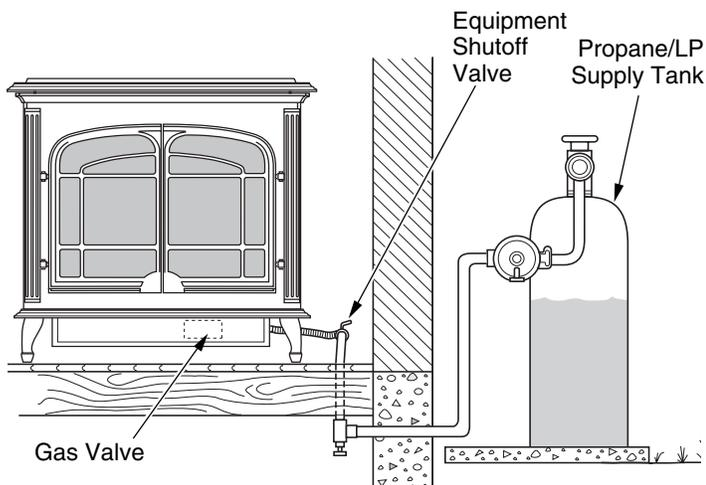
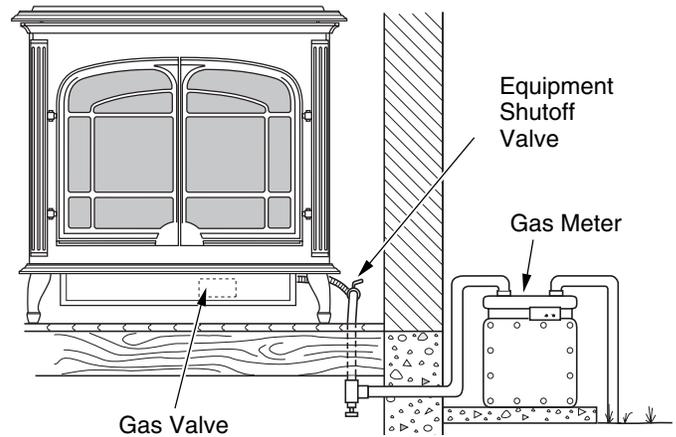

Figure 43 - Checking Gas Joints for Propane/LP Gas Burner System (Oxford™ Model Shown)
Figure 44 - Checking Gas Joints for Natural Gas Burner System (Oxford™ Model Shown)
3. Check all joints from propane/LP supply tank or gas meter to equipment shutoff valve (see Figure 43 for propane/LP or Figure 44 for natural). Apply noncorrosive leak test solution to all gas joints. Bubbles forming show a leak. Correct all leaks at once.
4. Check all joints from equipment shutoff valve to thermostat gas valve (see Figure 43 for propane/LP or Figure 44 for natural). Apply noncorrosive leak detection solution to all gas joints. Bubbles forming show a leak. Correct all leaks at once.